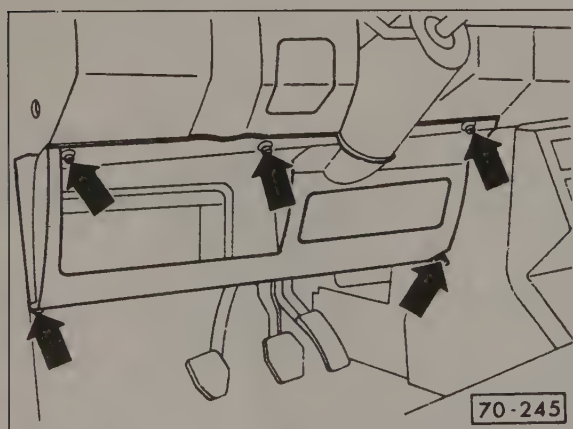

Fig. 4-3. Retaining screws (arrows) to be removed from left-side instrument panel tray.
3. Remove the lower-left instrument panel tray by removing the screws indicated in Fig. 4-3. On some Golf and GTI models the tray may run the full length of the instrument panel, or on models with passive restraint there may be a knee bar. With full-length trays it is necessary to remove two screws securing the fuse panel to the tray. Knee bars are held with two bolts at either end.